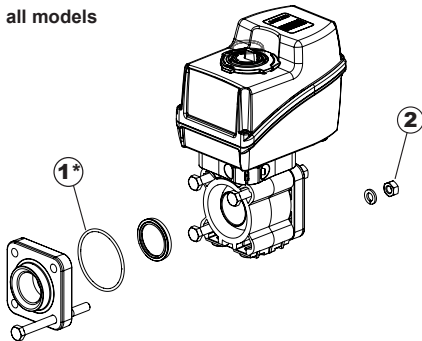

Fig. 12
- Re-position all the gaskets in their seats, as shown in Fig. 12 (gasket (1) is not present on all models), then close the flange.
- To ensure correct operation, the nuts (2) must be tightened using a torque wrench calibrated as indicated in the technical data (chap. 14 on page 12).